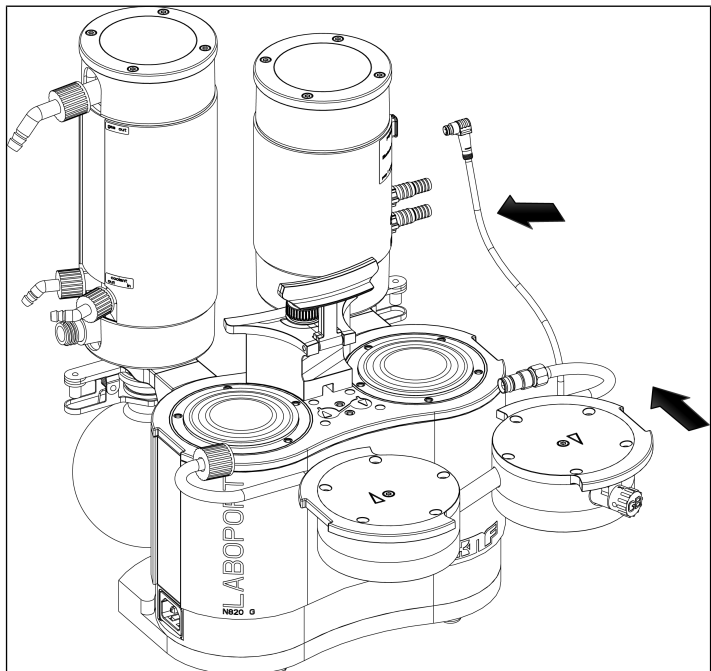

Fig.29: Mounting the pump head
2. Press down on the edge of both diaphragms (7) all the way around.
3. Place the head plate (3) on the intermediate plate (6) in line with the locating pin (5).
4. Place the pressure plate (2) on the head plate (3) according to the pencil line.
5. Tighten the internal head screw (1) in the center of the pressure plate (tightening torque: 1 Nm).
7. Place the two pump heads (consisting of head plate (3), intermediate plate (6) with valve plates/seals (4) and pressure plate (2)) together with the connection tube on the pump housing according to the pencil line (see Fig. 29).
- i** Make sure that the hose connection (11) is inserted straight into the separator connection.
8. Screw in the union screw of the hose connection (11) 1-2 turns by hand.